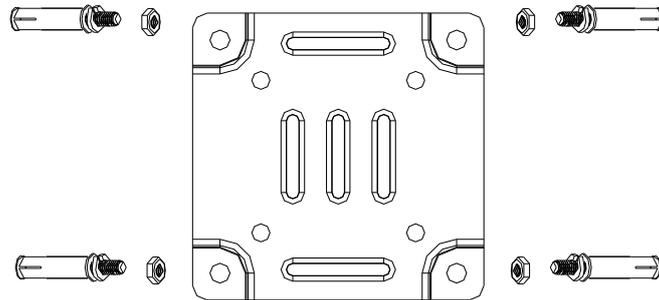

Figure 3-73 Attach the Installation Plate
3. Fix the installation plate and insert M10 \times 80 expansion screws into the screw holes, as shown in Figure 3-73.